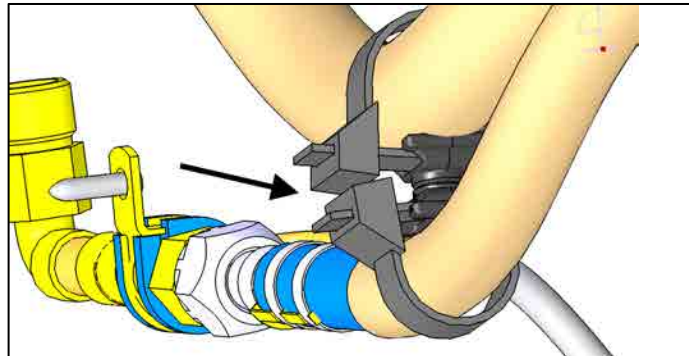

Figure 11
13. Using a suitable cutter, cut the original high pressure hose (From step 3) to required length to install hose fitting. (Fig. 11)